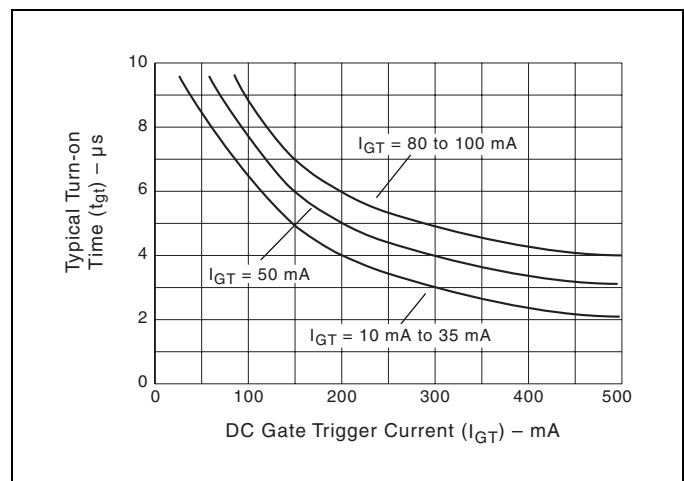

Figure E4.12 Turn-on Time versus Gate Trigger Current (Typical)
- (10) See Figure E4.12 for t_{GT} versus I_{GT} .
- (11) See package outlines for lead form configurations. When ordering special lead forming, add type number as suffix to part number.
- (12) Initial on-state current = 400 mA dc for 16 A to 40 A devices and 100 mA for 6 A to 12 A devices.